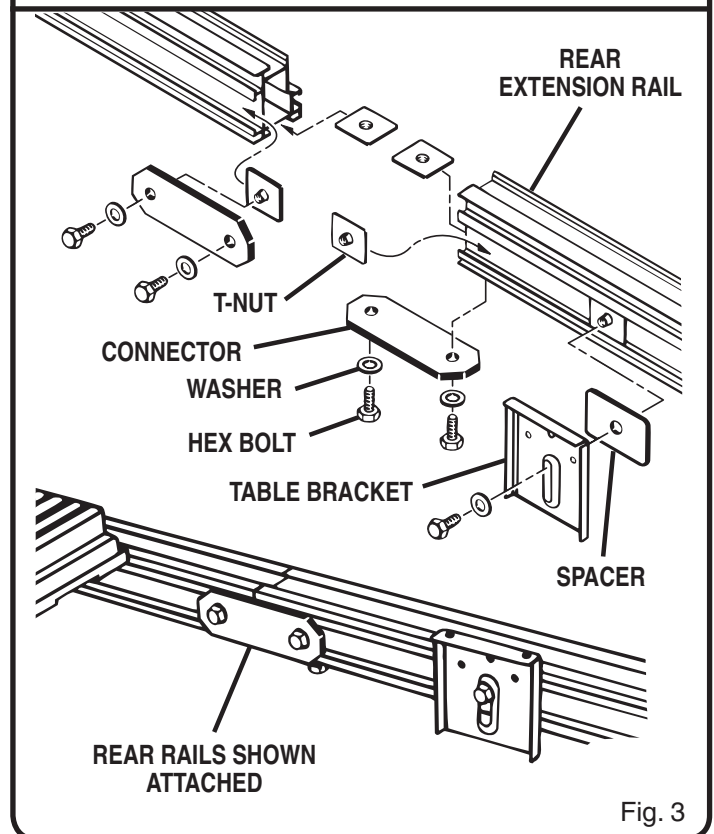

Fig. 3
See Figure 3 and 5.
The rear extension rail attaches to rear rail on your BT3100/BT3100-1 table saw by repeating the above procedure for attaching front extension rail. The only difference being the rear rail has a different configuration. See Figure 3.
- Slide two T-nuts into channel on front portion of rear extension rail. See Figures 3 and 5.